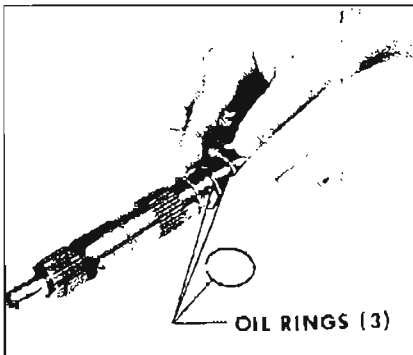

Figure 5-318
3. Install input shaft oil rings. See Figure 5-318.